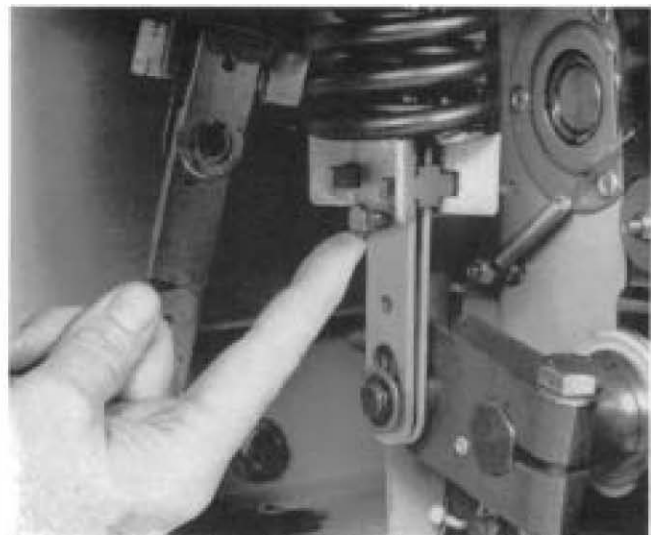

Figure 11: Blocking of Closing Springs
4. Observe the closing springs (figure 11). Stop charging just before a pin can be placed through the second hole in the spring guide.
5. While continuing to put slight pressure on the charging handle, insert a 3/16" diameter pin or bolt in the hole (figure 11). Do this on both closing springs.